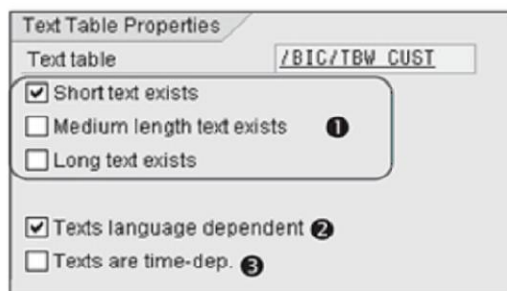

Figure 3.16 Configuring Texts for InfoObject
Let's explore some of the more important fields of the Text Table Properties area (Figure 3.16), which become editable when you check the With Texts box.
By default, the SAP NetWeaver BW system chooses the Short Text Exists flag (1 of Figure 3.16) and the Texts Language Dependent flag (2). This indicates, respectively, that the system receives and stores only short text for the InfoObject; and that the text can be in different languages.
Figure 3.16 shows that you have three options for storing text information:
Another important setting in this tab is the Texts are Time-Dep. box (3 of Figure 3.16). Imagine a scenario where a customer has changed his name, and the new name of the customer is valid from a particular date. Assume that you've already loaded master data for this customer (along with textual information). If this box isn't checked, and you load the same customer master data with the new name, the old name is overwritten by the new name. Our case study requires you to analyze sales data for both the new name and the former name based on the period of analysis (i.e., before the change and after the change). This requirement is met by selecting this checkbox.